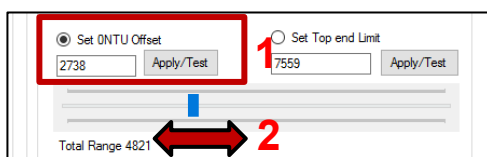

Figure 7.O: Scaling and calibrating 0NTU offset
3. Select the option “Set Top-end Limit” (Figure 7.P: #3).